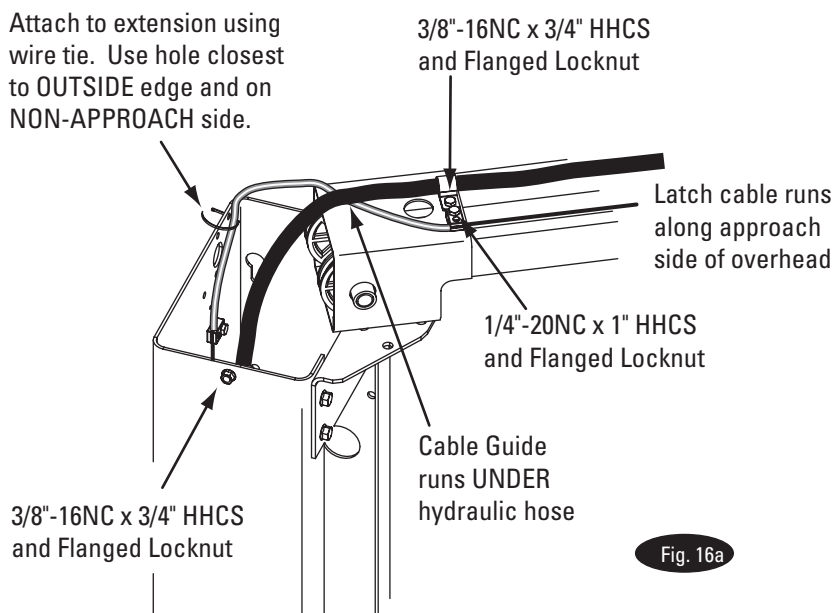
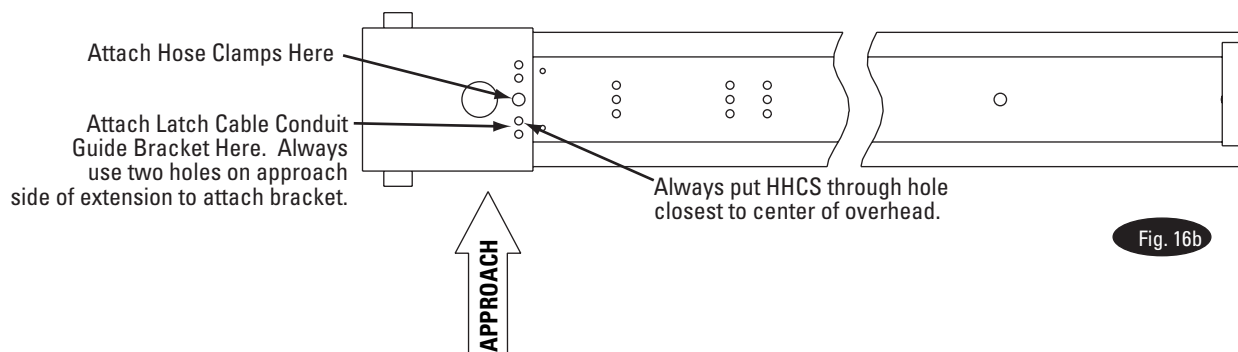
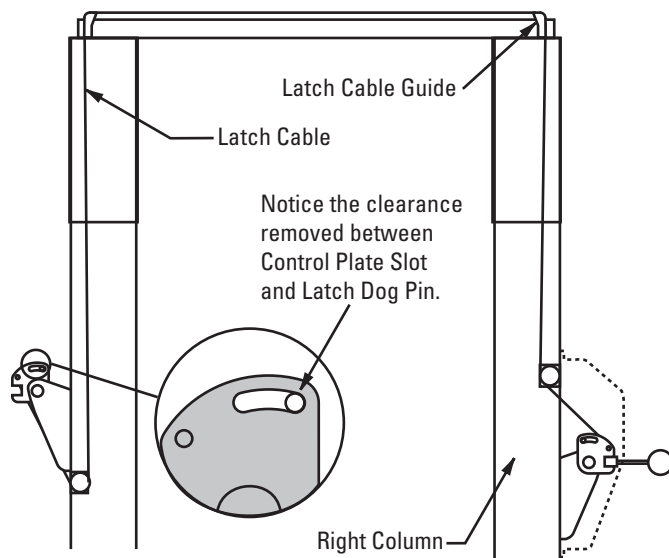
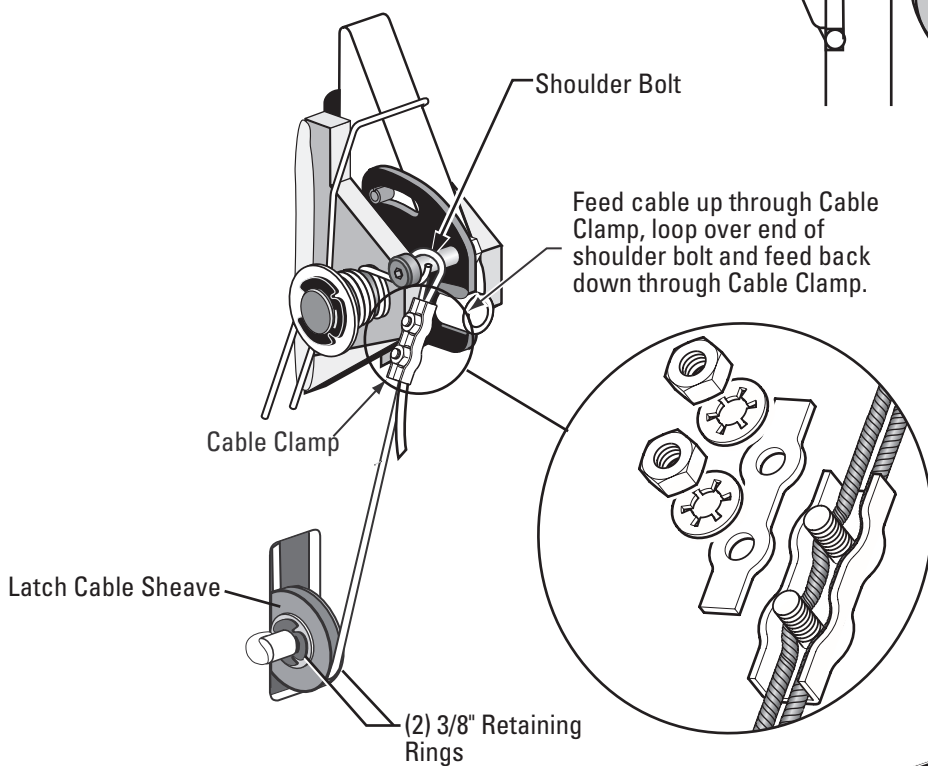

Fig. 16a
Fig. 16b
Fig. 18
Fig. 19
NOTE: Route Power Unit hose inside columns using slots provided at column base, Fig. 14. Route Overhead Hose in column channel on outside of column, Fig. 14. Overhead hose goes over top end of overhead assembly, Fig. 12 & Fig. 16a & Fig. 16b.
- D) Attach latch cable conduit guide brackets to overhead as shown, Fig. 16a & Fig. 16b. Always use the holes on the approach side of the lift. HHCS should be in hole nearest the center of the overhead, Fig. 16b.
- E) Route cable up inside column and through the latch cable guide, Fig. 16a & Fig. 18.
Using wire ties provided, tie off cable guide to column extension as shown, Fig. 16a. Guide must be attached in hole closest to the outside edge of the column on the NON-APPROACH side.
- F) Continue routing cable to the left column latch cable guide, Fig. 16a & Fig. 18, routing the cable through the left column latch cable guide, Fig. 16a.
- G) Bring the cable down inside the left column and feed the end of the cable through the lower latch cable sheave slot so that the cable is now back outside the column, Fig. 19.
- H) Install latch cable sheave and retaining rings in lower slot of non-power unit column as shown, Fig. 19.
- I) Route cable under the bottom side of the latch cable sheave, Fig. 19.
- K) Insert cable in cable clamp along one side, loop around shoulder screw and back down, inserting cable along other side of cable clamp, Fig. 19. Place top back on clamp, barely tightening.
- L) Next, pull the control plate down, Fig. 18 & Fig. 19, to eliminate any clearance between the control plate slot and the latch dog pin, Fig. 18.